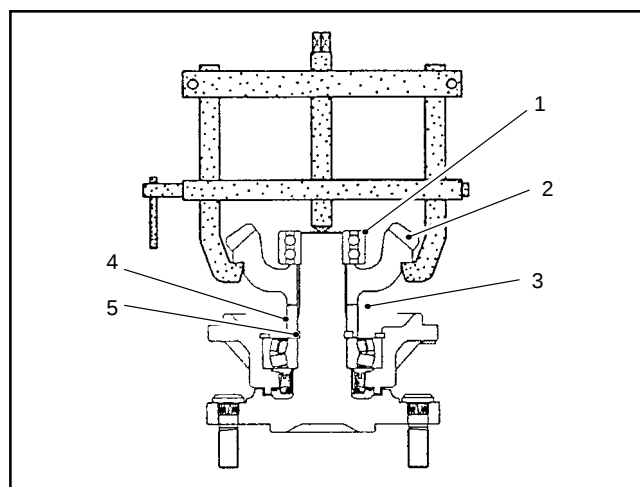

Figure 76
2. Use a bearing puller to remove the bearing and bevel gear as shown (Fig. 76).